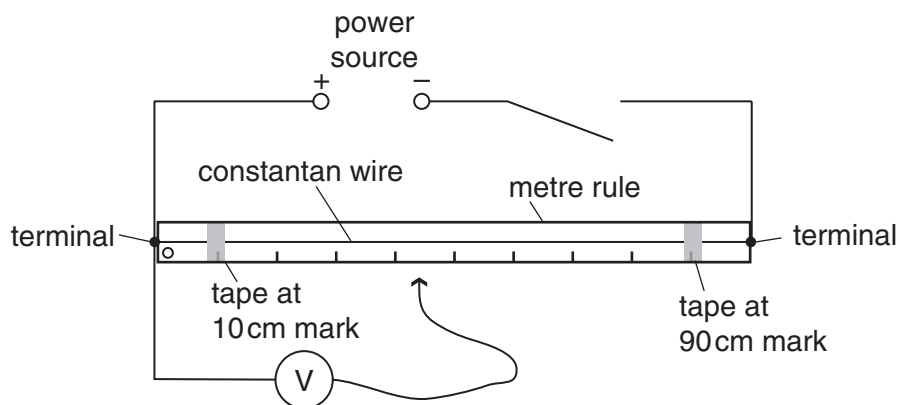

Fig. 4.1
- (iii) Sufficient connecting leads to set up the circuit shown in Fig. 4.1.
- (vi) Two suitable terminals attached to the constantan wire at the ends of the metre rule so that connections can be made to the circuit shown in Fig. 4.1.
The circuit shown in Fig. 4.1 must be set up for the candidates.